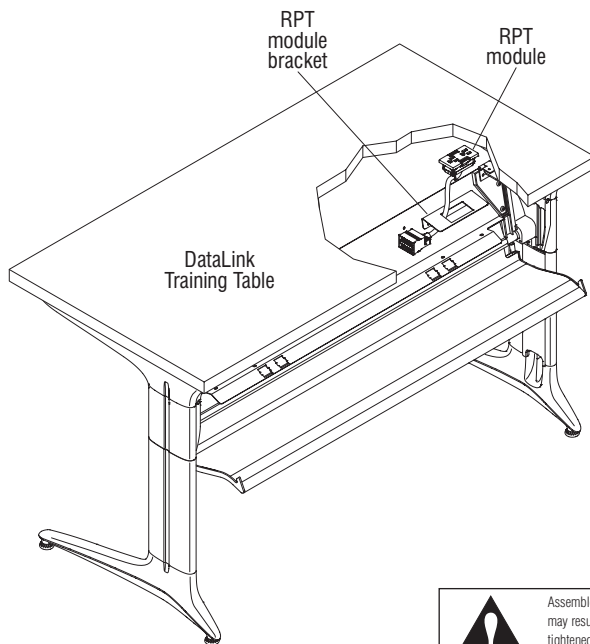

Figure 2 - DataLink Training Table
3. Feed the connector end of the RPT module through the rectangular opening in the bracket and snap the module into place (Figure 2).